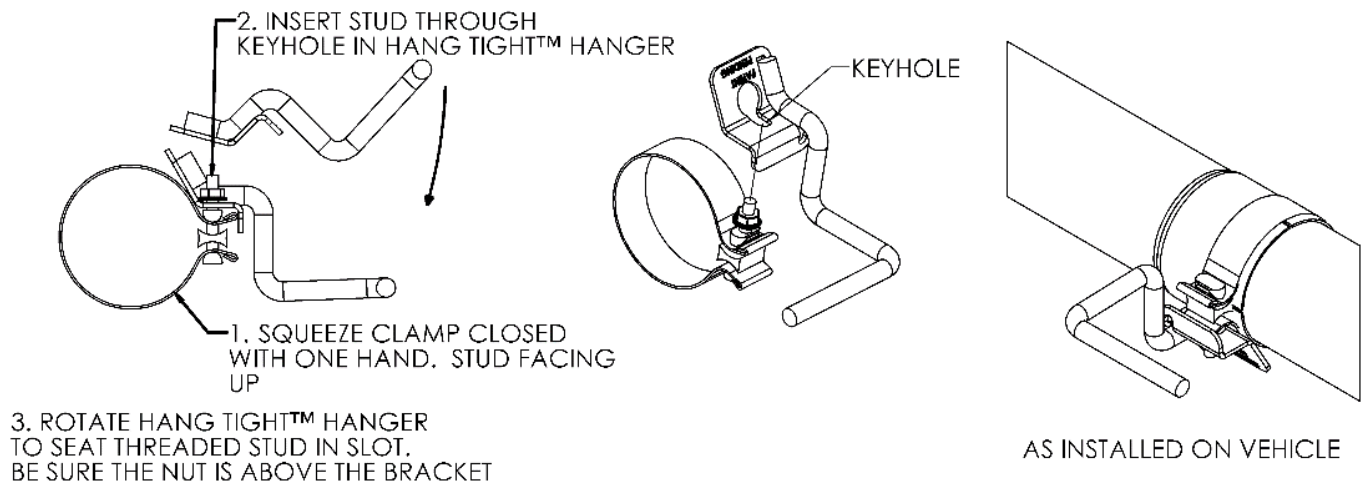

Figure 1
1. Install the expanded end of the **Extension Pipe** over the factory exhaust system behind the "Y" pipe. Now install a **3" Band Clamp** with the **Front Hang Tight** (see **Figure 1** for hang tight installation instructions) onto the **Extension Pipe** to help support it.